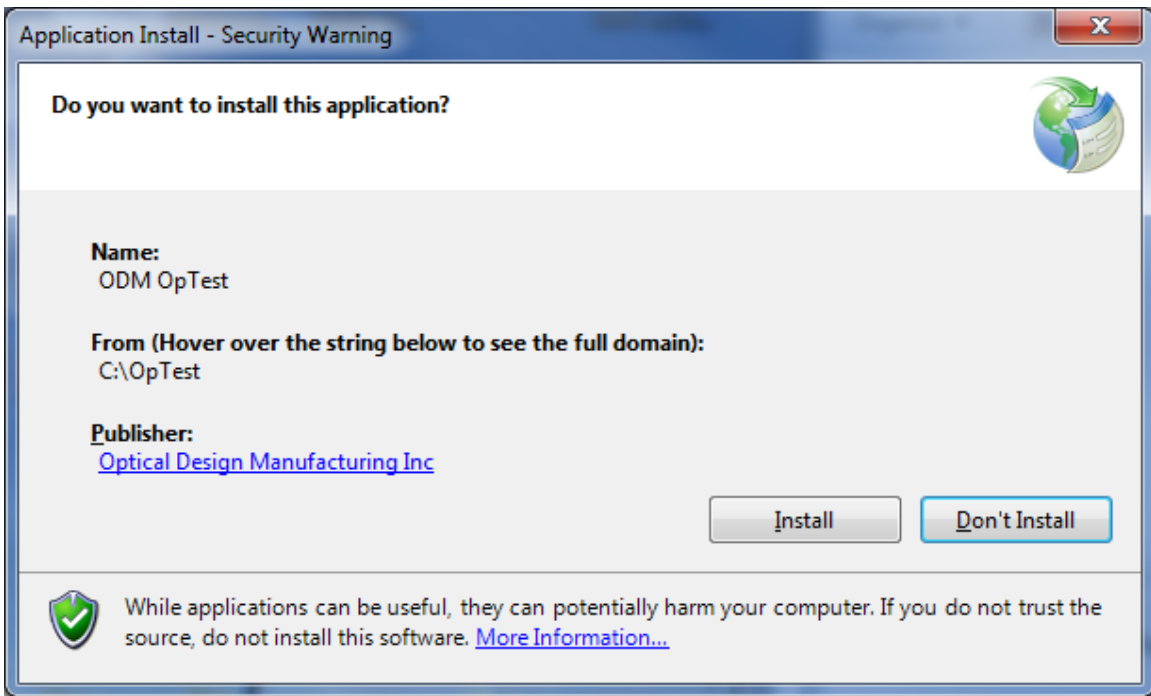

Figure 1: ODM OpTest Installation.
5. Click on Install. See Figure 1 below.